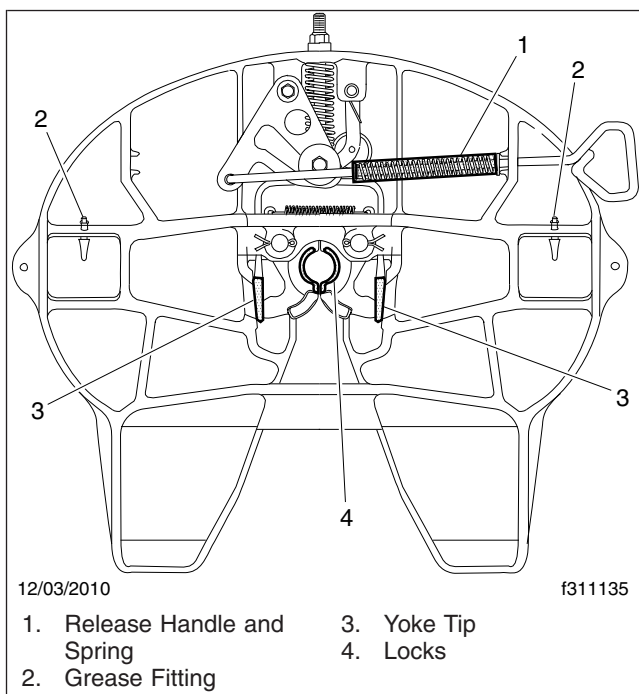

Fig. 12, Holland FW35 Fifth Wheel, Grease Lubrication
3. Grease the yoke tips, locks, and the release handle and spring; see **Fig. 12**. Grease the mounting bracket supports through the grease fittings. A "low temp" grade grease rated for -30°F (-34°C) or lower such as Cato Oil and Grease #5213, Craftsman Chemical Co. #LTF 2, Mystic LP-200, or equivalent is recommended.